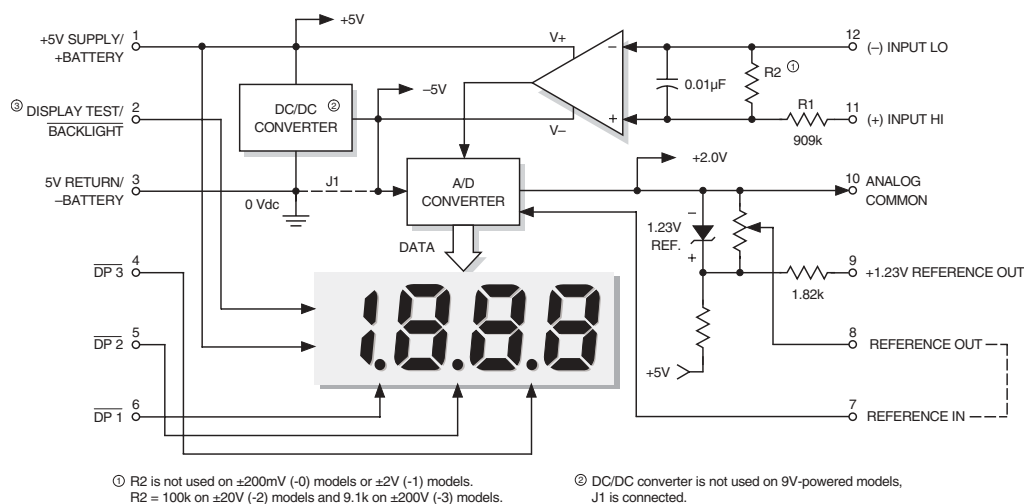

Figure 1. DMS-30LCD Series Simplified Schematic
① Applies for transient or continuous overvoltages applied to (+) INPUT HI (pin 11) with (-) INPUT LO (pin 12) properly connected. Pin 12 is not overvoltage protected (see Figure 1). Voltages applied to pin 12 should not exceed the supply voltage.
② Listed spec applies to 5V-powered models only. For 9V-powered models, both (-) INPUT LO (pin 12) and (+) INPUT HIGH (pin 11) must always be at least 1.5V above -BATTERY (pin 3) and at least 1.5V below +BATTERY (pin 1).
③ See Technical Notes.